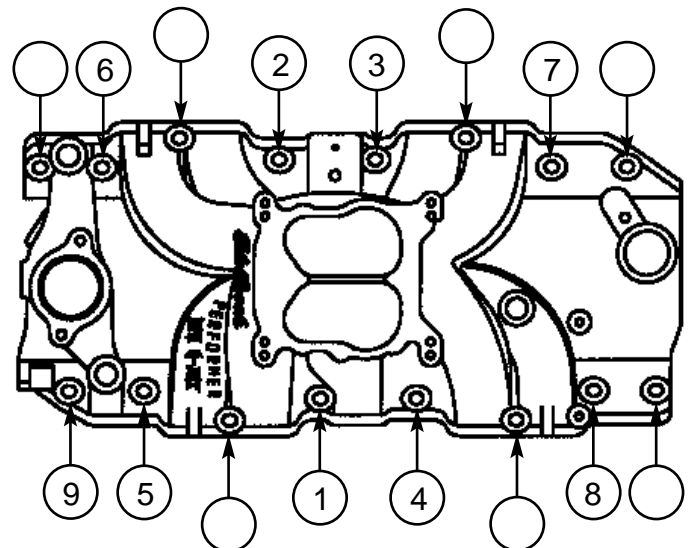

Figure 2—Intake Manifold Tightening Sequence
- **MANIFOLD TORQUE—WARNING:** There is no gasket support for the manifold on the four bolt holes which are numbered 13, 14, 15, and 16 in Figure 2. Damage to the manifold will occur if these four bolts are over-tightened. Hand tighten them with a 6" box end wrench. Do not use a torque wrench. Torque all other manifold bolts circled in Figure 2 to 25 ft/lbs. See Figure 2 for proper sequence.
- **FIRING ORDER AND CYLINDER NUMBERING**—For firing order and cylinder numbering, see Figure 2.